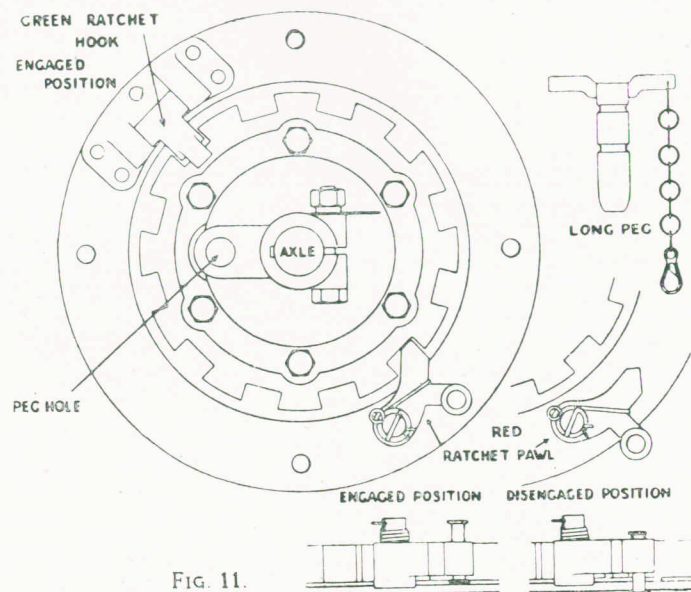

FIG. 11.
(A) The connections between wheelshaft and gearing are as follows: (see Fig. 11)
- (1) When fully inserting the long peg in the hole provided in the left-hand hub, the bottom speed is engaged. This speed is to be used for heavy deep tillage.
- (2) When fully inserting this long peg in the right-hand hub, the top speed is engaged. This speed is to be used for light surface cultivation.
- (3) When inserting this long peg only half-way in one or the other hubs, no speed is engaged and the machine can be wheeled about and can travel from place to place even with the engine stopped.
(B) The connection between wheelshaft and driving wheels can be effected by two distinct devices, viz., the Green Ratchet Hook securing rigid connection and the Red Ratchet Pawl enabling "free wheel" action (see Fig. 11), entire disconnection being obtained when both these two Ratchets are lifted. Out of the 16 obtainable combinations resulting, the more commonly used are indicated below:—
- (1) For Rototillage on light or medium soil, one wheel should have both Green Hook and Red Pawl down and the other wheel can have Green Hook lifted and Red Pawl down, thus facilitating turning at the end of the row.
- (2) For Rototillage on very stiff soil, both wheels should be rigidly connected, which is best obtained by both Green Hooks down, whereas Red Pawls remain lifted. If turning is found difficult, one of the Green Hooks can be lifted before operating the turning and dropped again after turning has been effected.
- (3) For mowing, the L.H. Wheel should have both Green Hook and Red Pawl lifted and the R.H. Wheel the Green Hook down.
- (4) For ploughing and other traction work on the field, both wheels should have Red Pawl down and Green Hook lifted except for No. 56, where one of the wheels should have the Green Hook down.
- (5) For road travel, one wheel should be rigidly connected, the other free wheeling, which is best obtained by one wheel with both Green Hook and Red Pawl down and the other wheel with Green Hook lifted and Red Pawl down.
- (6) For stationary work, special precautions should be taken to prevent any possibility of the wheels being set in motion, these precautions consisting in the first place by inserting the Long Peg only half way as described under A3 on page 13, and further by lifting both Green Hook and Red Pawl on both wheels.